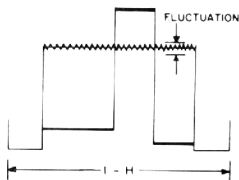

Figure 4-1: PVR501 Alignment
- 4) Adjust PVR501 to obtain a minimum fluctuation (A straight line) in figure 4-1.